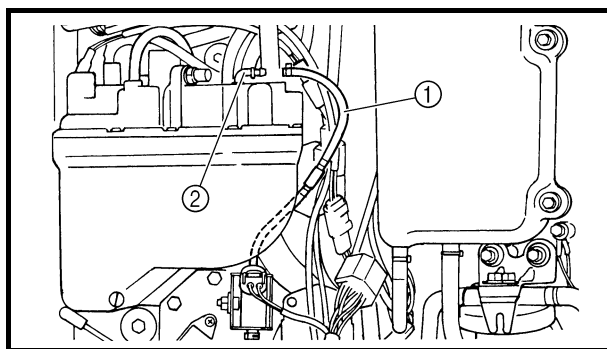

Fig. 80
2. Remove the oil hose ① from the vapor separator inlet ②. (Fig. 80)